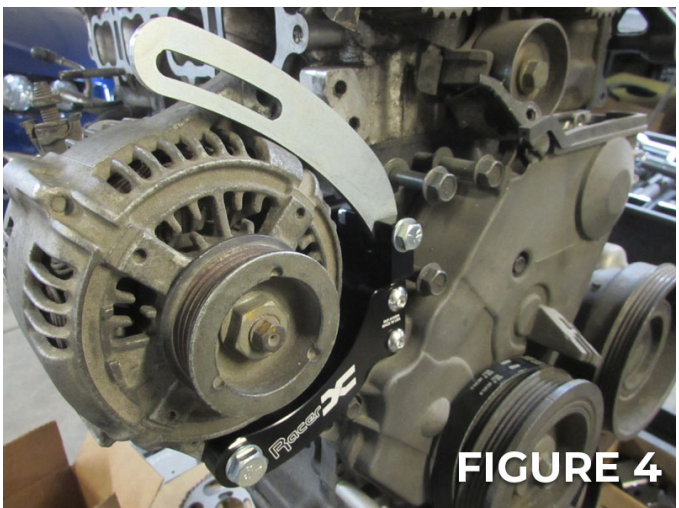

FIGURE 4
4. Install alternator to bracket. Insert M10 bolt with washers on both sides and thread bolt on but do not tighten completely. (Fig 4)